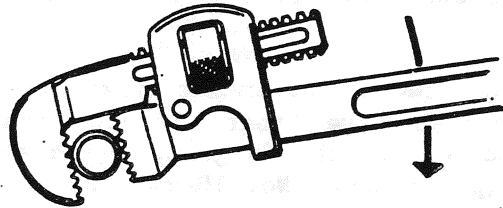

Figure 10.35. Pipe Wrench
1. There is need on occasions for using a pipe wrench, but only on round objects, never on hexagon or square nuts. The teeth on the jaws of the pipe wrench always leave their mark on the work. No instructions are necessary on which way to pull on this wrench because it works only in one direction. However, the wrench works best when the "bite" is taken at about the center of the jaws. (Figure 10.35)